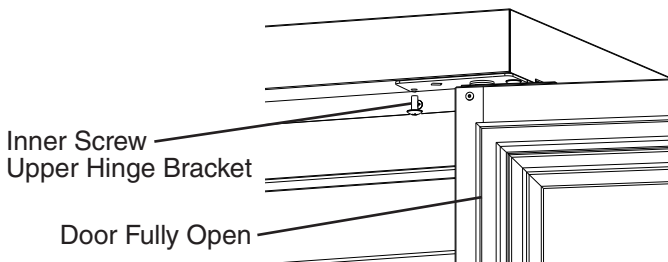

Fig. 3
- 2) Open the door to the fully open position, then remove the inner screw from the upper hinge bracket. See Fig. 3.